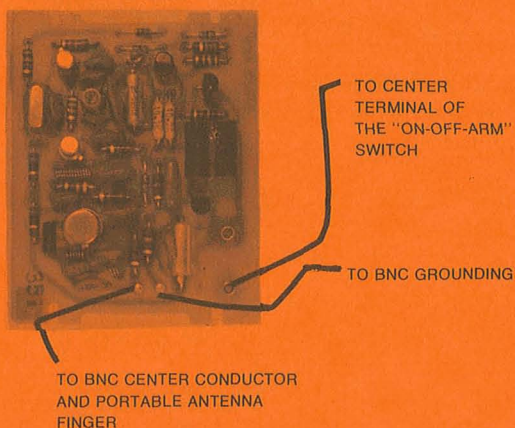

FIGURE 6
5. Unsolder the three lead connections. (See Figure 6)